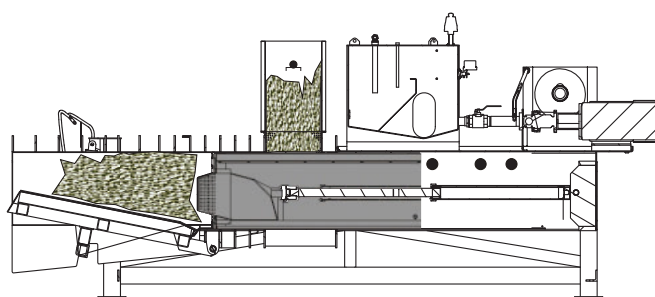

Figure 27 - Plunger Extends, Product Falling On Top Of Plunger
6. **PLUNGER STOPS** The plunger stops at full extension (home position), product piling on plunger. PROX 4, PROX 3 and PROX 2 are deactivated (see Figure 27- Pg. 21).
5. **PLUNGER STOPS** The plunger stops at full extension (home position), product piling on plunger. **PROX 4**, **PROX 3** and **PROX 2** are deactivated (see Figure 27).